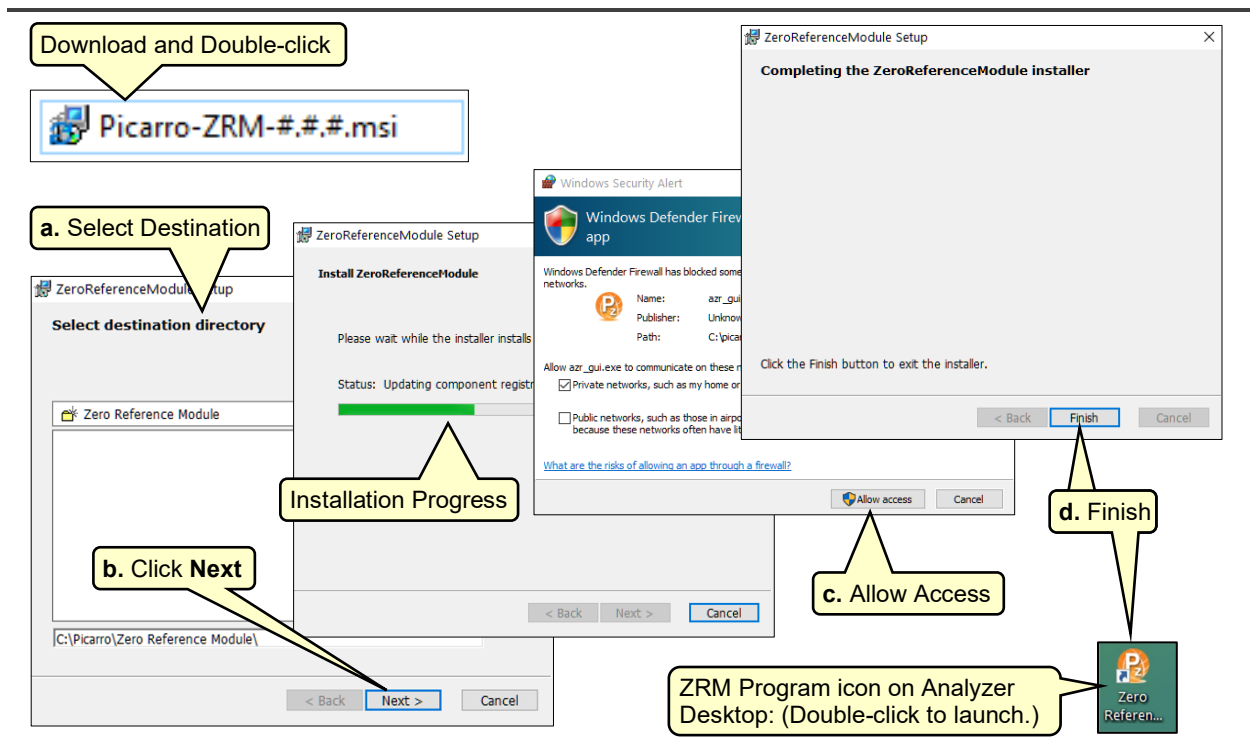

Figure 63: ZRM Software Installation Process
2. Navigate to and double-click the file named **Picarro-ZRM-#.#.#.msi** to begin installation. The following **Zero Reference Module Setup** windows (Figure 63) open which will require user interaction as installation progresses: